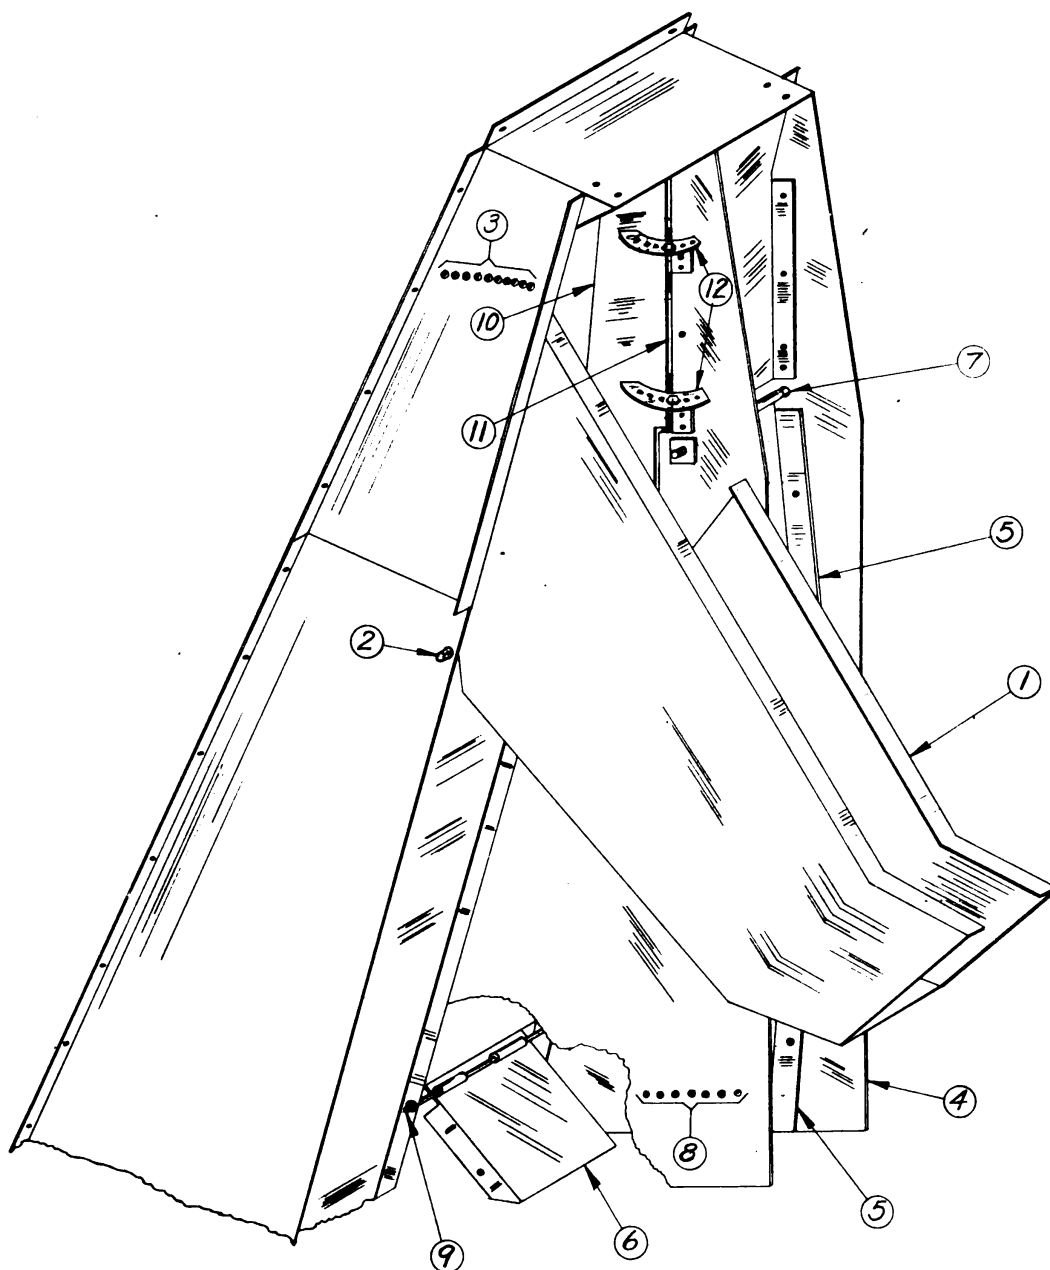

FIG. 10 - COLD ELEVATOR DISCHARGE CHUTE.
The discharged aggregate from the bucket line is directed into each of the two dryer charging hoppers by the elevator discharge chute. The chute is made up in two sections, one section (1) Fig. 10, directing approximately half the aggregate into the drum farthest from the cold elevator, and the other section (4) directing the remainder of the aggregate into the drum nearest the cold elevator.